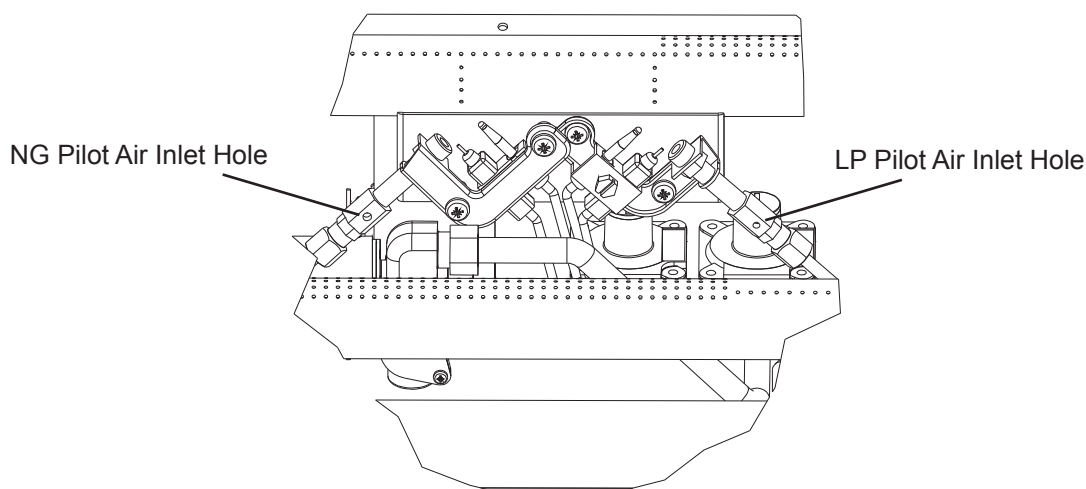

Fig. 25 - Pilot Inlet Air Hole
6. In case any large clumps of dust have now been pushed into the burner repeat steps 3 and 4. Clean the pilot assembly also. A yellow tip on the pilot flame indicates dust and dirt in the pilot assembly. There is a small pilot air inlet hole about 2" from where the pilot flame comes out of the pilot assembly (see Figures 25). With the unit off, lightly blow air through the air inlet hole. You may blow through a drinking straw if compressed air is not available.